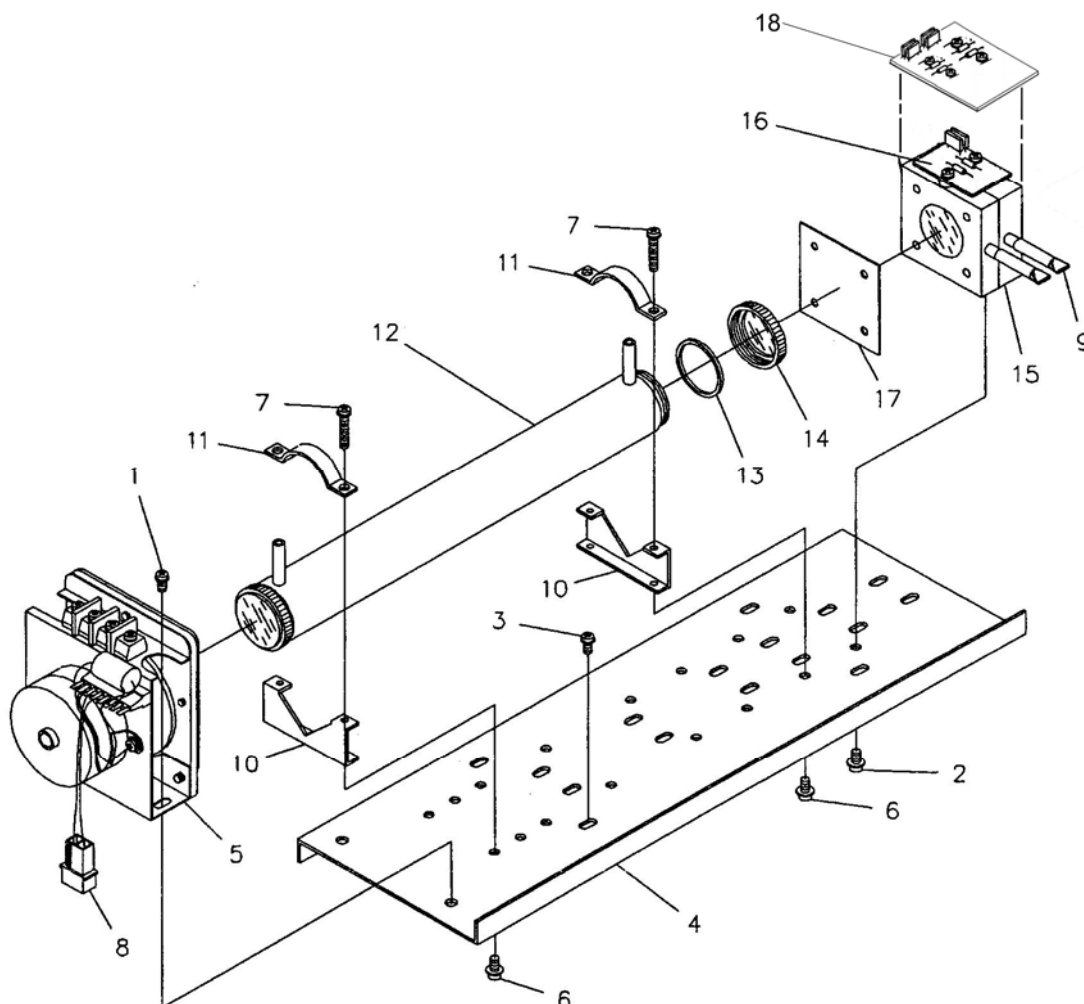
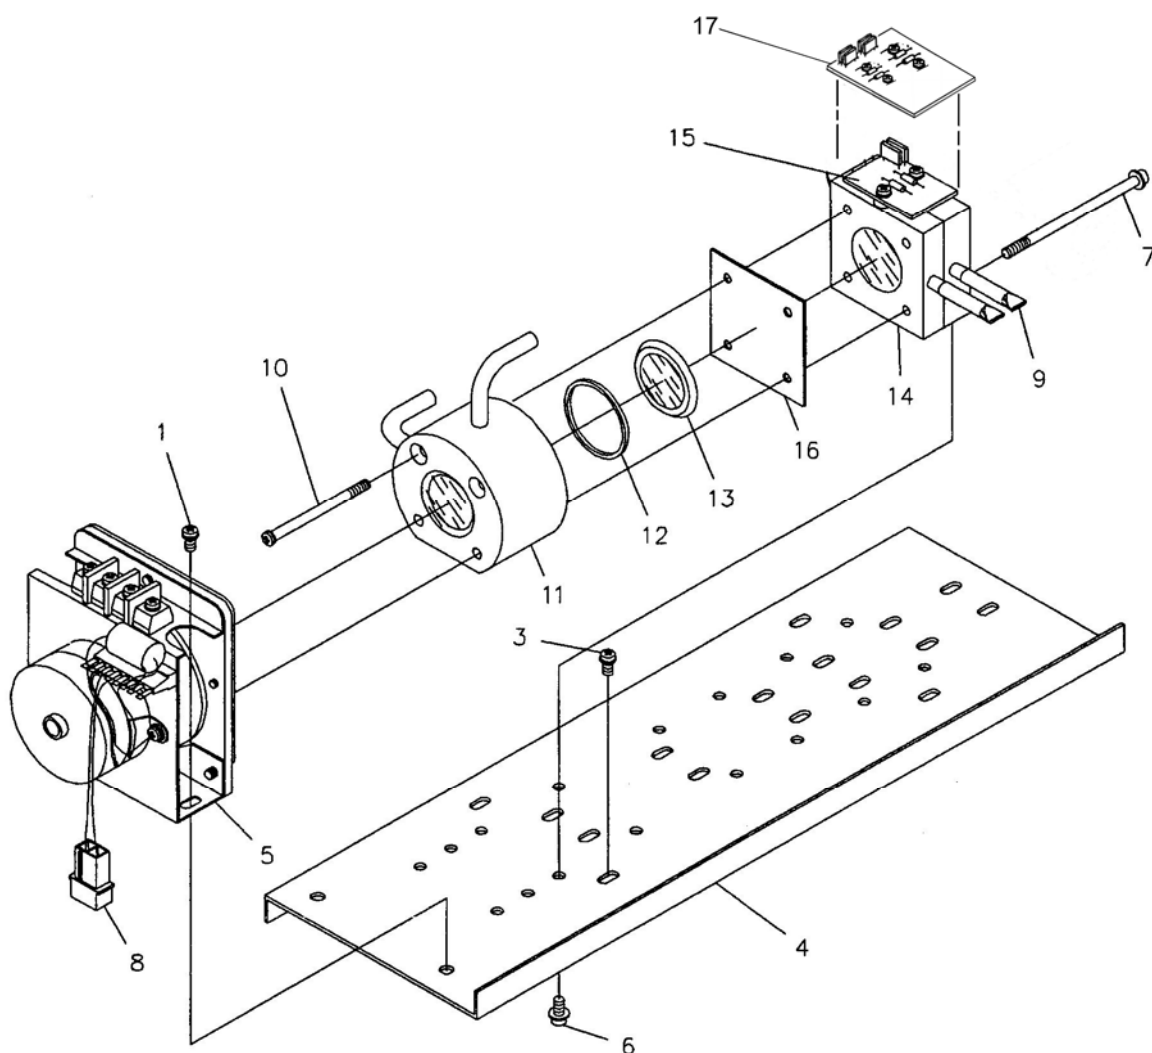
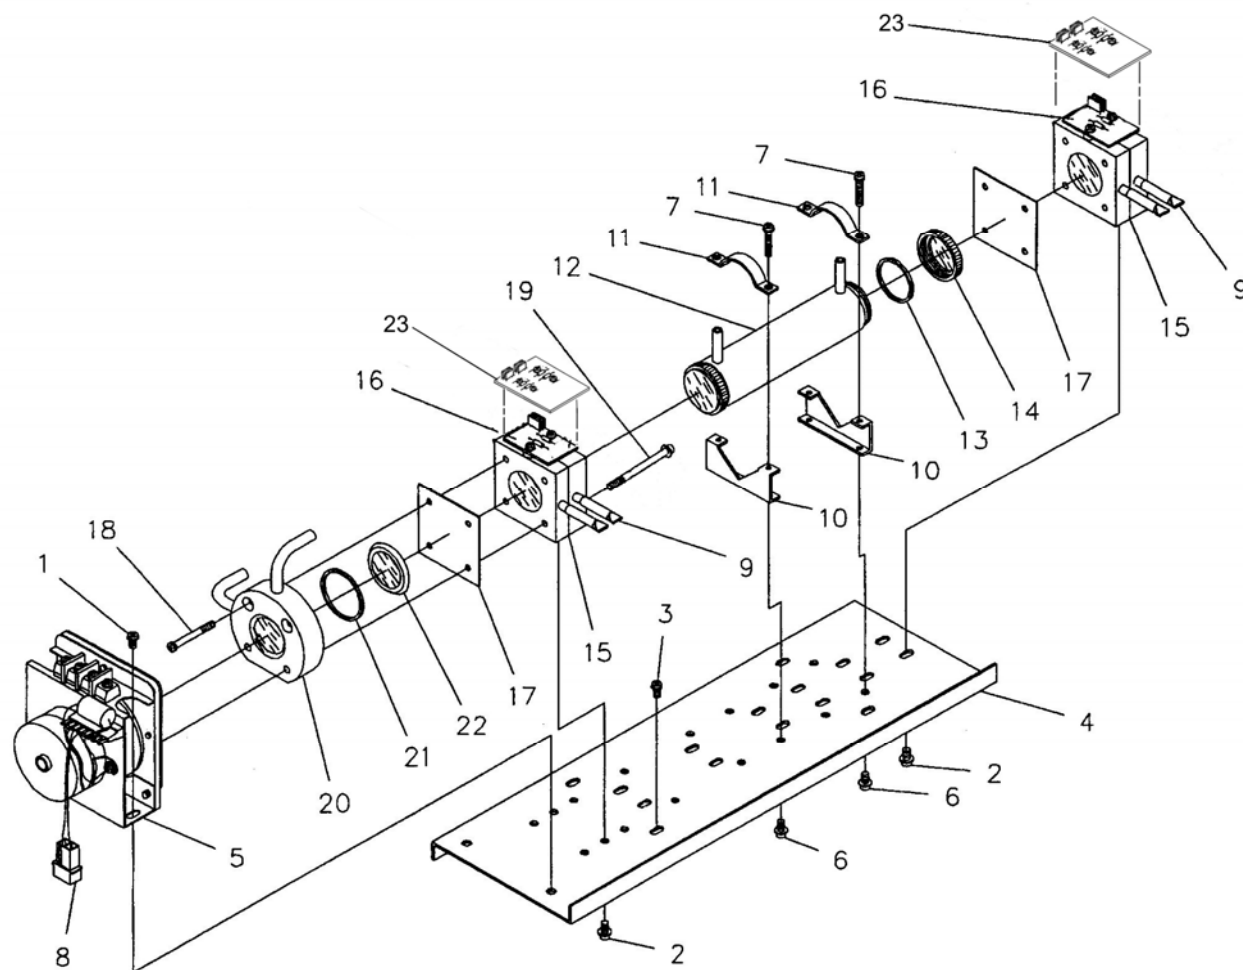

Figure 10-1 Optical Bench with Pipe Sample Cell
Figure 10-2 Optical Bench with Block Sample Cell
Figure 10-3 Optical Bench with Pipe and Block Type Sample Cells
(Figure 10-1)
- 5) After loosening (do not remove) the two screws (No. 1 in Figure 10-1) which are used for securing the infrared light source unit (No. 5 in Figure 10-1) to the base plate, shift the infrared light source away from the pipe cell (No. 12 in Figure 10-1) to form a gap.
- 6) After removing the pipe cell retainer screws (No. 7 in Figure 10-1), remove the retaining clamps (No. 11 in Figure 10-1).
- 8) At this time, inspect the O-Ring (No. 13 in Figure 10-1) for signs of deterioration. Replace if necessary.
- 10) The pipe cells contain a reflective metal foil liner (not shown in Figure 10-1) to enhance the light energy through put in the cell. Normally it is not necessary to remove the liner for cleaning; however, the liner should be removed if the cell is subjected to grossly excessive moisture. If necessary, clean both sides of the liner and the inside of the pipe cell. If the liner has been subjected to a corrosive substance, it should be replaced. In either case, ensure that the small gas holes in the liner are aligned with the gas fittings at both ends of the pipe cell before reassembling the windows.
(Figure 10-2)
- 6) Remove the two screws (No. 7 in Figure 10-2) attaching the detector to the infrared light source assembly and remove the detector from the optical bench. The cell is removed together with the detector as a unit.
- 7) While holding the detector in the palm of your hand, remove the two flat-head screws (No. 10 in figure 10-2) which fix the cell to the detector.
***Note: The cell window (No. 10 in figure 10-2) is loose and is only retained by the clamping action between the detector and the block sample cell. Take care not to drop the window when separating the block cell from the detector.***
(Figure 10-3)
- 5) Disconnect the wires from the two terminal screws of the infrared source unit and unplug the 2-pin connector (No. 8 in figure 10-3) from the chopper motor.
- 7) Remove the two screws (No. 1 in figure 10-3) that secure the infrared source unit to the base.
- 9) Remove the two screws (No. 19 in figure 10-3) that secure the detector to the infrared source then separate the detector and block cell from the infrared source unit.
- 10) While holding the detector in the palm of your hand, remove the two flat-head screws (No. 18 in figure 10-3) which fix the cell to the detector.
**Note: the cell window (No. 10 in figure 10-3) is loose and is only retained by the clamping action between the detector and the block ample cell Take care not to drop the window when separating the block cell from the detector.**
- 13) Remove the pipe cell retaining screws (No. 7 in figure 10-3)
- 14) Remove the retaining clamps (No. 11 in figure 10-3).
- 15) Lift the pipe cell out of its two supports (No. 10. in figure 10-3) and remove both windows (right-hand threaded) (No. 14 in figure 10-3).
- 16) At this time, inspect the O-Ring (No. 13 in Figure 10-3) for signs of deterioration. Replace if necessary.
- 18) The pipe cells contain a reflective metal foil liner (not shown in Figure 10-3) to enhance the light energy through put in the cell. Normally it is not necessary to remove the liner for cleaning; however, the liner should be removed if the cell is subjected to grossly excessive moisture. If necessary, clean both sides of the liner and the inside of the pipe cell. If the liner has been subjected to a corrosive substance, it should be replaced. In either case, ensure that the small gas holes in the liner are aligned with the gas fittings at both ends of the pipe cell before reassembling the windows.
(No. 15 in Figure 10-1 and Figure 10-3, No. 14 in Figure 10-2)
- 3) Replacement: After disconnecting wires from the two terminal screws and motor connector, remove the two screws that are used to attach the infrared light source unit to the optical bench. The light source assembly can be replaced, referring to Figure 10-1 or Figure 10-2.